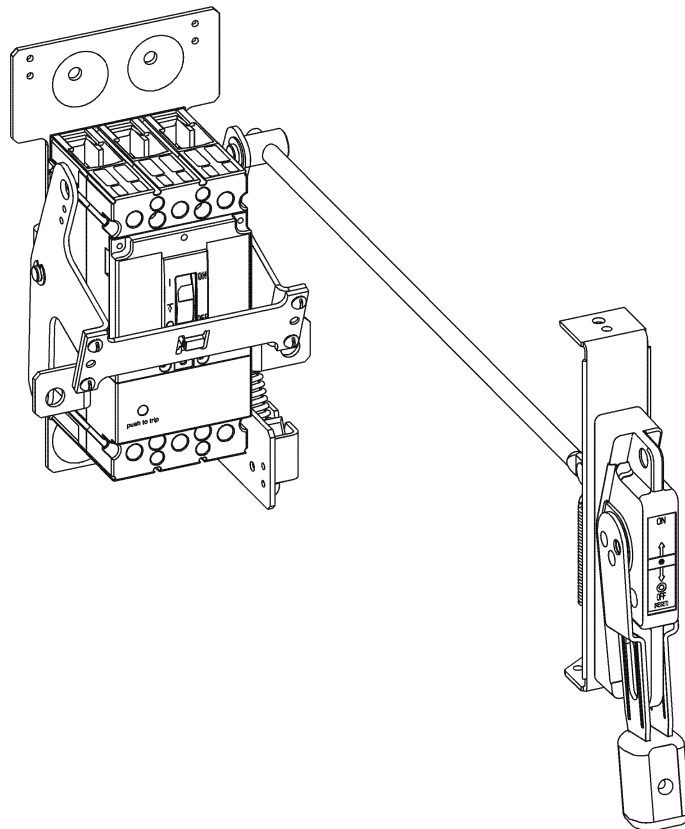
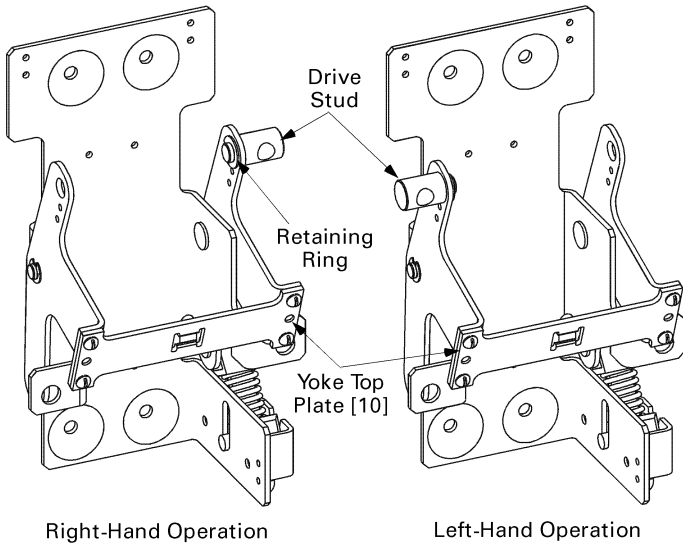

Figure 1. Variable-depth operating mechanism installed on a Record Plus™ FE250 circuit breaker.
Figure 2. Variable-depth operating mechanism, as set up for right-hand or left-hand operation.
The operating mechanism is driven by a type-STDA flange-mounted operating handle (ordered separately), as illustrated in Figure 1. The individual mechanism is shown in Figure 2. The variable-depth mechanism is built at the factory for right-hand operation, but can be field converted to left-hand operation.
1. If the operating mechanism is to be installed with right-hand operation, proceed to step 2. If it is to be installed for left-hand operation, remove the retaining ring and drive stud from the right-hand yoke, as shown in Figure 2, and reinstall them on the left-hand yoke.